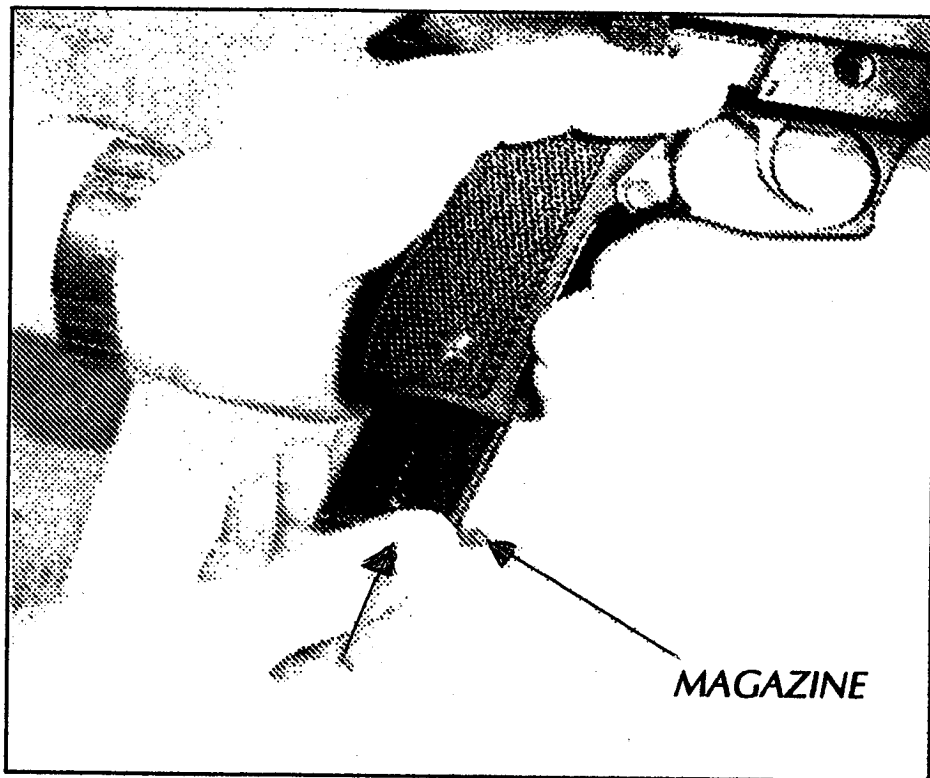

Fig. 8 INSERTING MAGAZINE
4. Insert loaded magazine into magazine well with bullets pointing forward (Fig 8). Push magazine fully home until magazine catch is heard to "click", locking it in place.